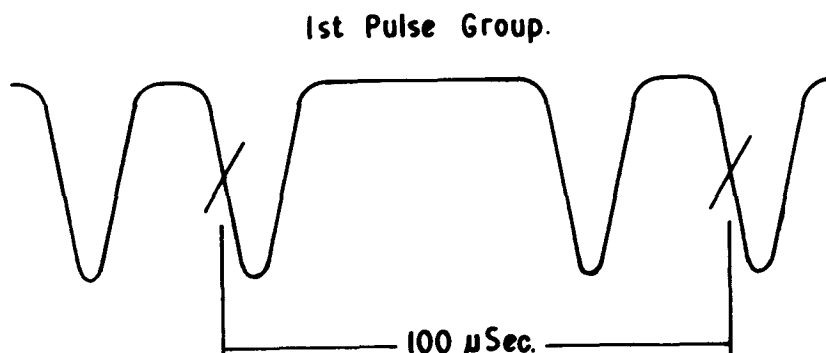

Figure 3-24
13. On the CTR unit, adjust the MARKERS POSITION control to place a marker on the half-amplitude point of the leading edge of the second pulse of the first pulse group (see figure 3-24).
14. Measure the time interval from this point to the identical place on the fourth pulse of the same group, as shown in figure 3-24. The pulse spacing should be between 95 and 105μ sec, nominally 100μ sec. Record the spacing obtained.